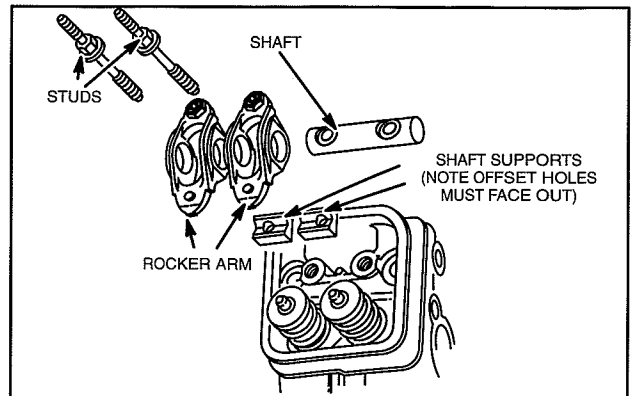

Fig. 24 – Install Rocker Arms – Early Style
Note: Rocker shaft support holes are offset. Install with holes facing ends of rocker shaft, Fig. 24.
2. Assemble rocker arms, shaft, supports and studs and install on cylinder head, Fig. 24.